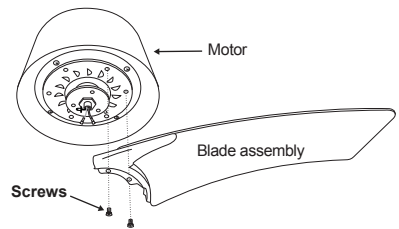

Figure 14
Step 4. Tighten the blade assemblies onto bottom motor by using two screws previously removed from the motor. (Figure 14)